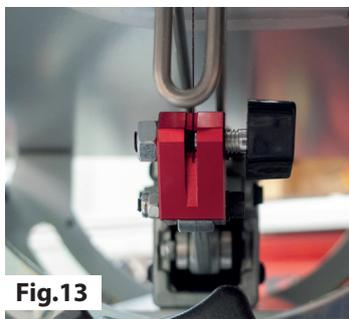

Fig.13
**When tilting the blade to the left at extreme angles, it may be necessary to remove and reverse the lower blade mount thumbscrew ( **c** ) assembly in order to maximise clearance under the table. (Fig. 13 shows the lower blade mount in default position.**